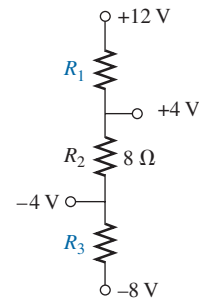

FIG. 5.122
39. Given the information appearing in Fig. 5.122, find the level of resistance for  $R_1$  and  $R_3$ .